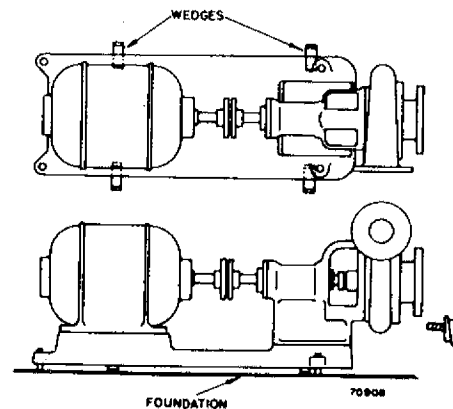

Fig. 2
- (a) Put the pumping unit in place on the wedges furnished. The wedges should be placed at four points, two below the approximate center of the pump and two below the approximate center of the driver (See Fig. 2).